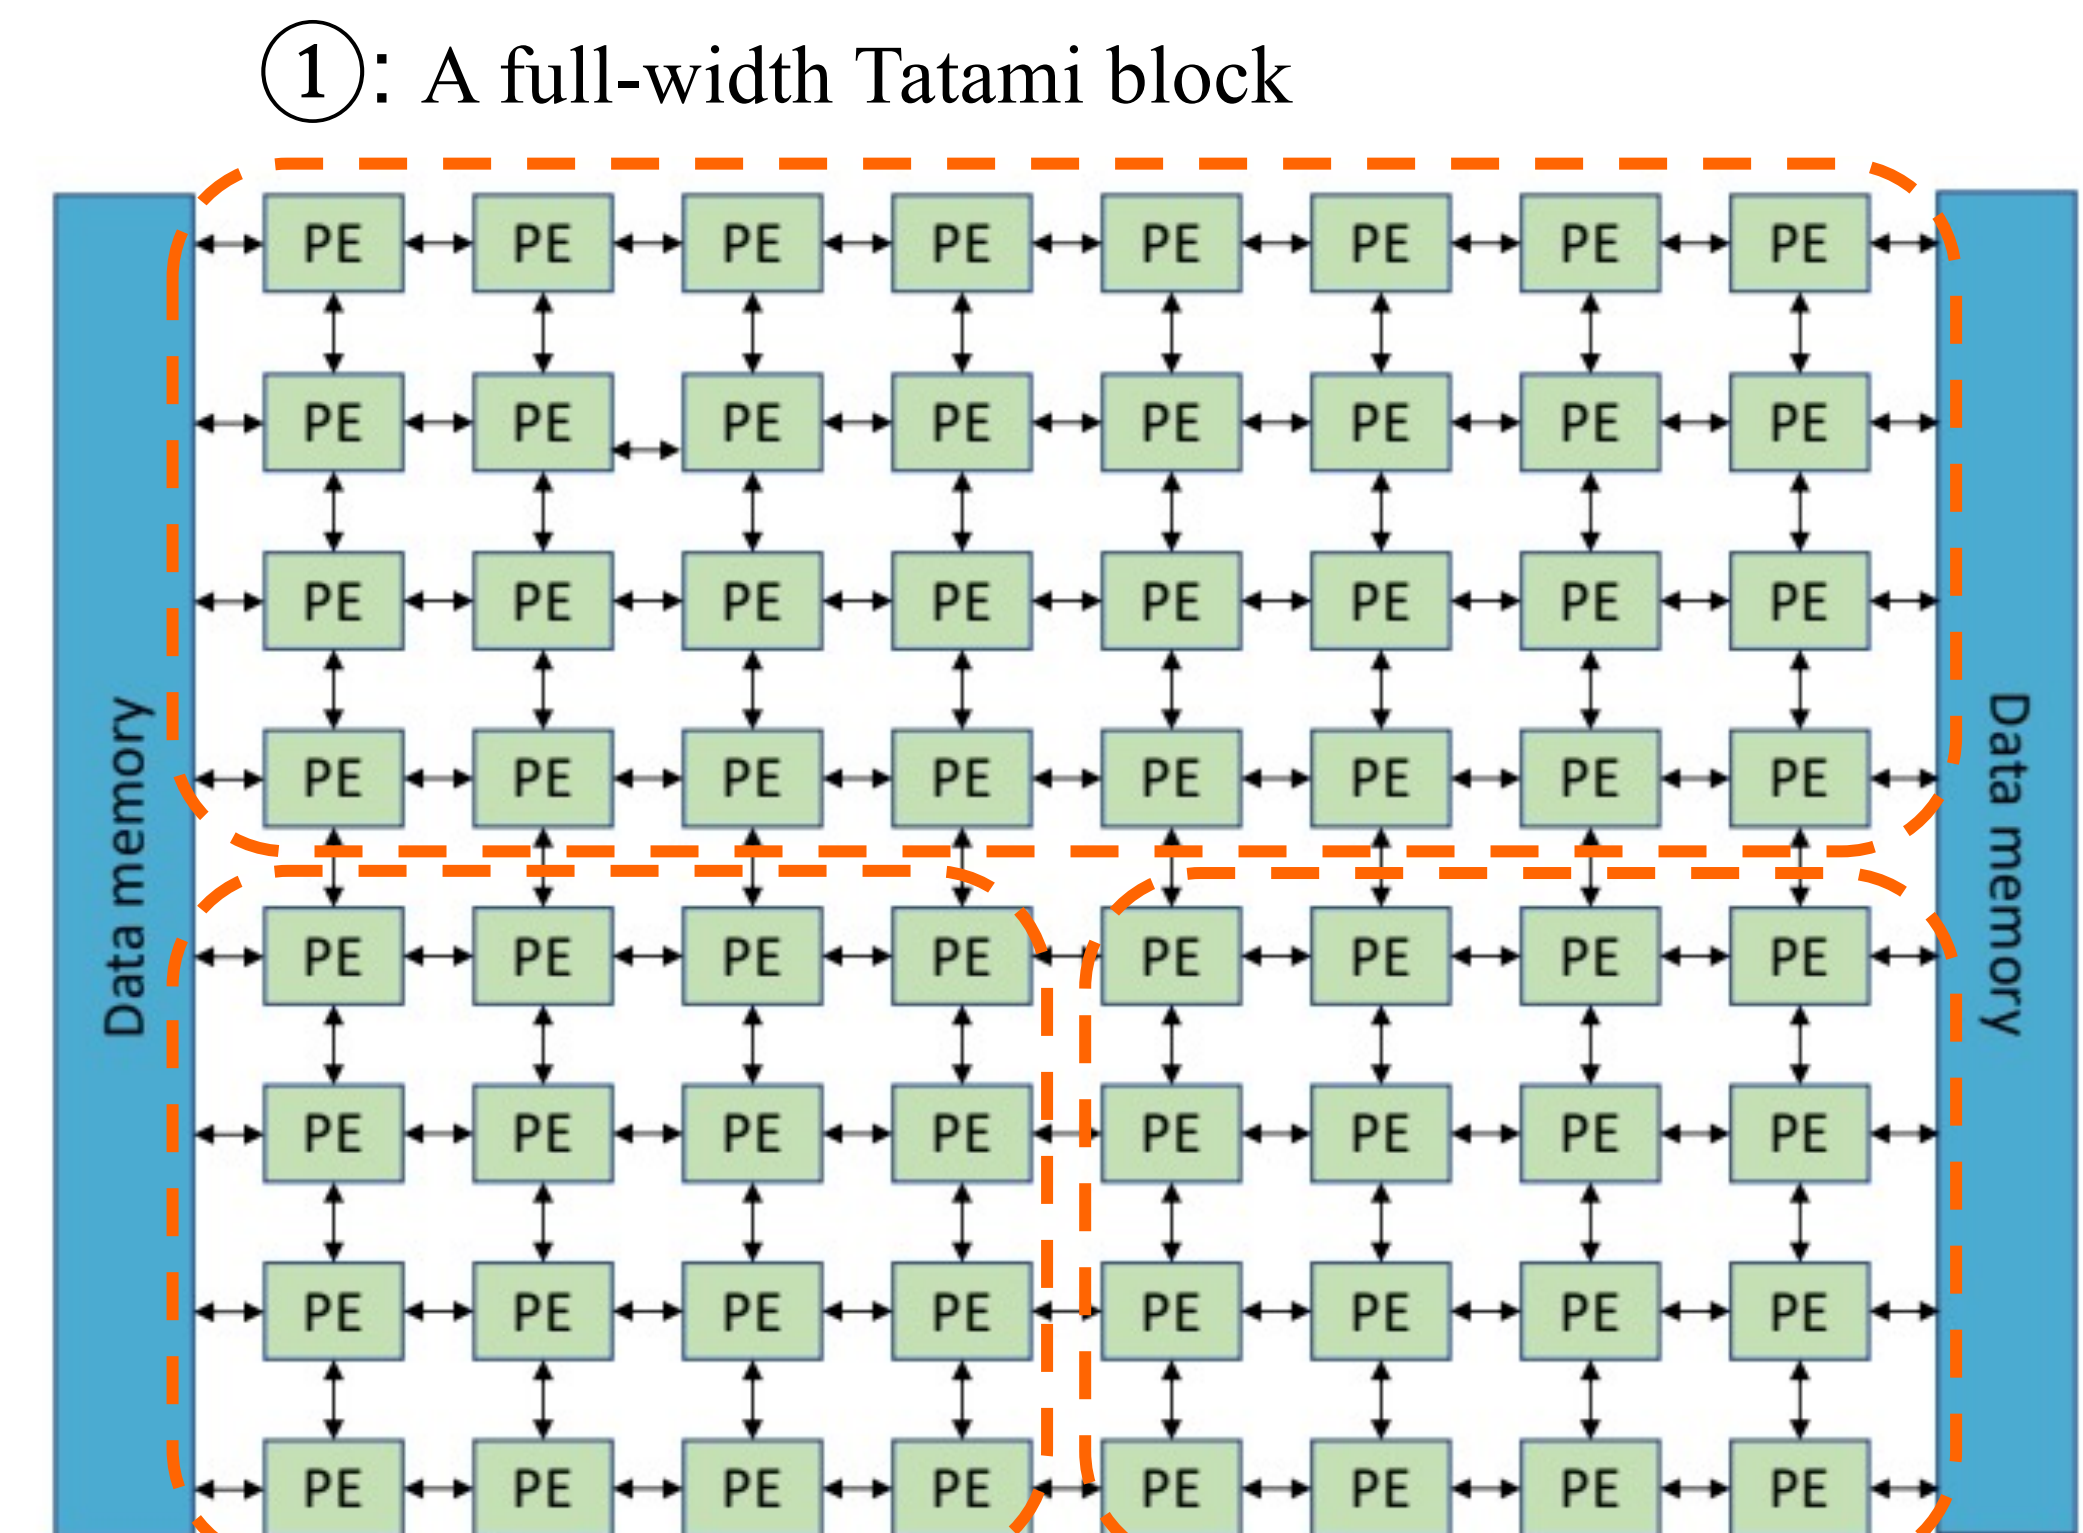

Figure 2. Target CGRA architecture with 64 (8×8) Processing Elements (PEs) and 2 scratchpad memories.
- The blocks' width are $W/2$ or W (4 or 8 in Figure 2).
- (1) : 2 memory ports at each row
- (2) : 1 memory ports at each row on its left